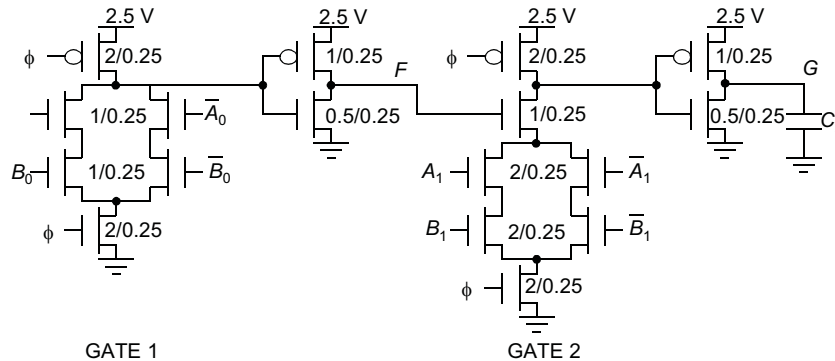

Figure 6.16 DOMINO logic circuit.
23. [C, Spice, 4.3] Figure 6.16 shows a dynamic CMOS circuit in Domino logic. In determining source and drain areas and perimeters, you may use the following approximations: $AD = AS = W \times 0.625\mu\text{m}$ and $PD = PS = W + 1.25\mu\text{m}$. Assume 0.1 ns rise/fall times for all inputs, including the clock. Furthermore, you may assume that all the inputs and their complements are available, and that all inputs change during the precharge phase of the clock cycle.
24. [M, Spice, 4.3] In this problem you will consider methods for eliminating charge sharing in the circuit of Figure 6.16. You will then determine the performance of the resulting circuit.